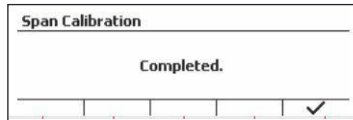

Figure 12
- The message "Completed" will display on screen. (See Figure 12)